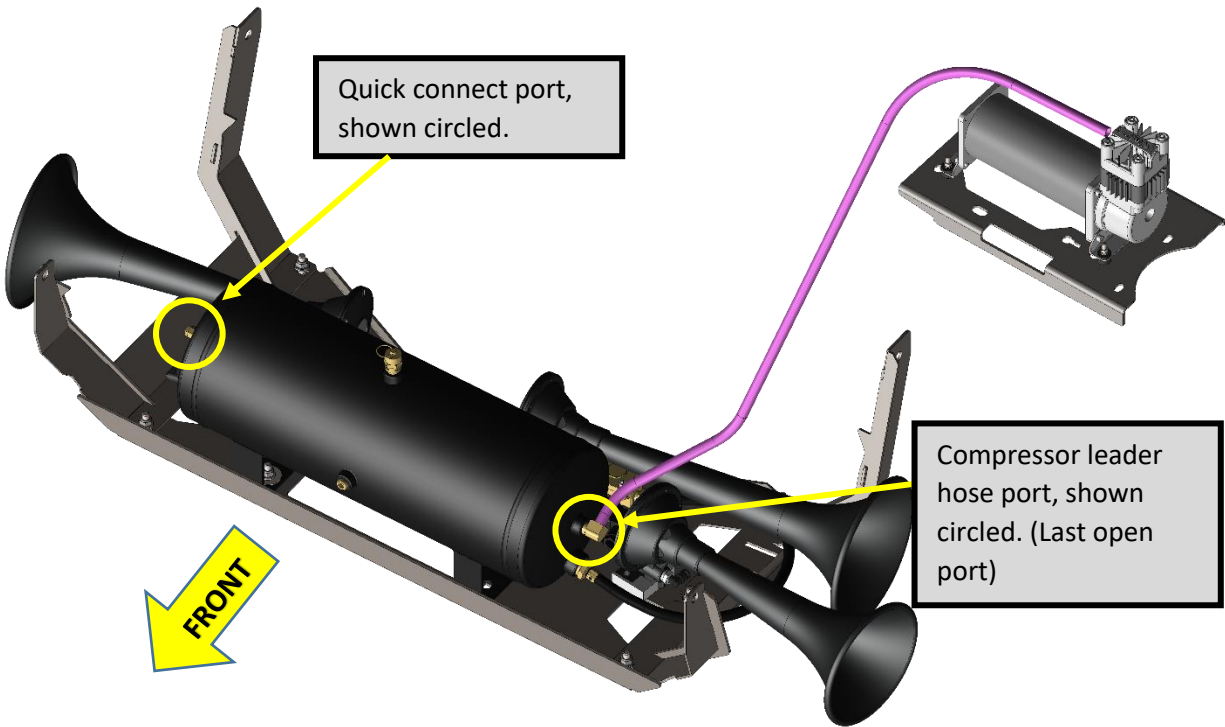

Figure 20 – Air Compressor Leader Hose Extension to Air Tank port
- 9.6.2. Connect Compressor Leader Extension Hose to the Air tank using the last available port; see Fig 20.
- 9.7.2. Use supplied 1/4" Air Tubing and attach to port shown above in Figure 20.